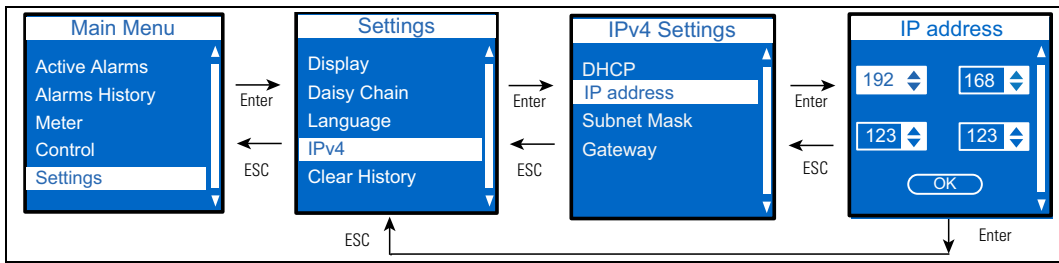

Figure 35. Set the Static IP Address
- 2. Set the static IP address (see Figure 35). Wait 10 seconds.